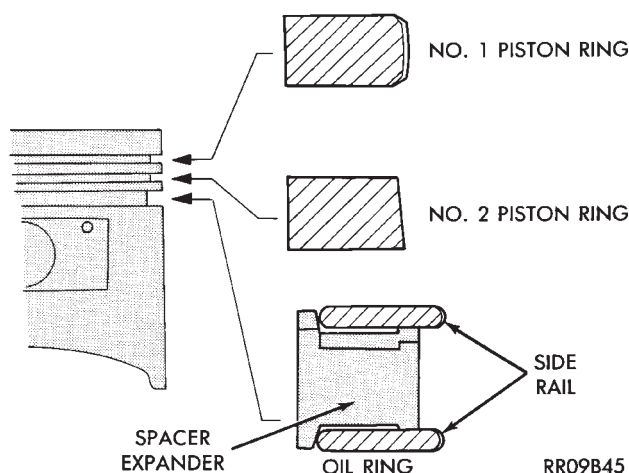

Fig. 10 Piston Ring Installation
(1) The No. 1 and No. 2 piston rings have a different cross section. Install rings with manufacturers mark and size mark facing up, to the top of the piston (Fig. 10).